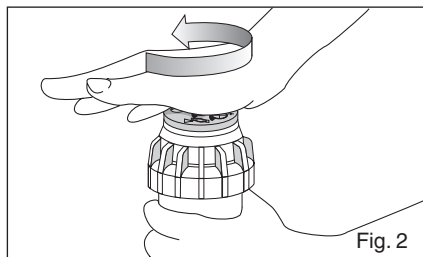

Fig. 2
1. Using the palm of your hand, rotate the nozzle turret counterclockwise to the left stop to complete any interrupted rotation cycle (Fig. 2).